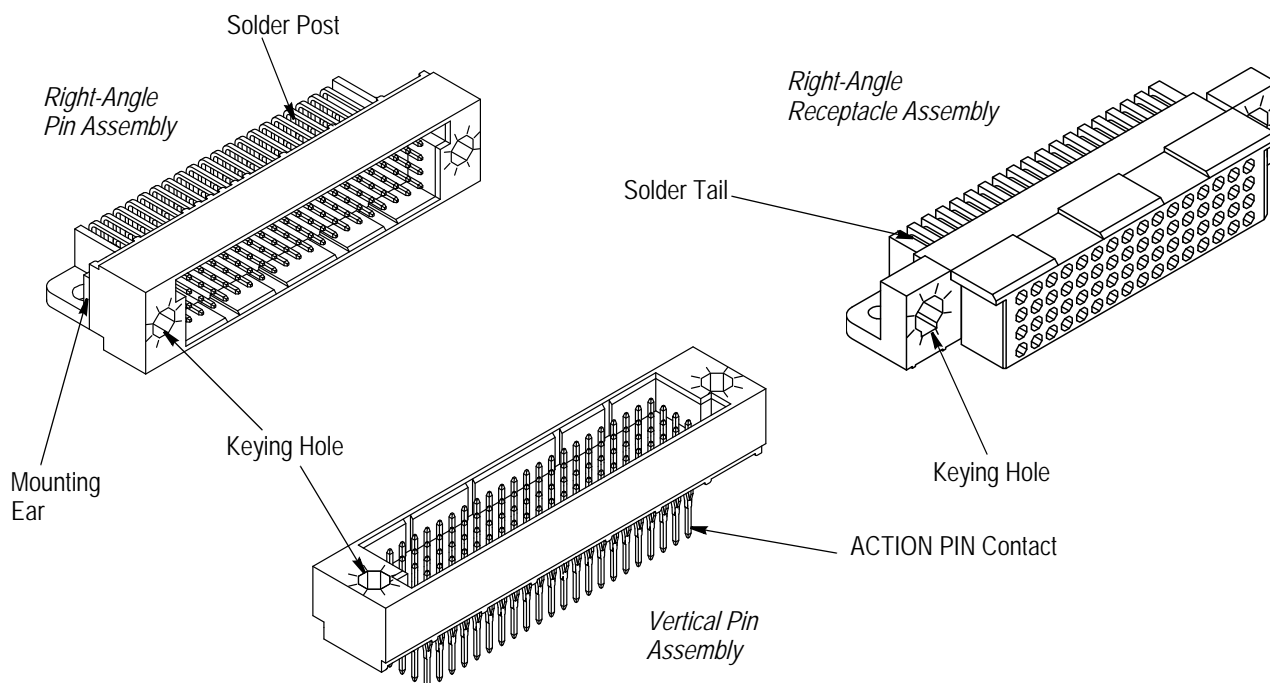

Figure 1
When corresponding with TE Connectivity Personnel, use the terminology provided in this specification to facilitate your inquiries for information. Basic terms and features of this product are provided in Figure 1.
- New artwork in Figures 1 and 11 and deleted artwork in Figure 11